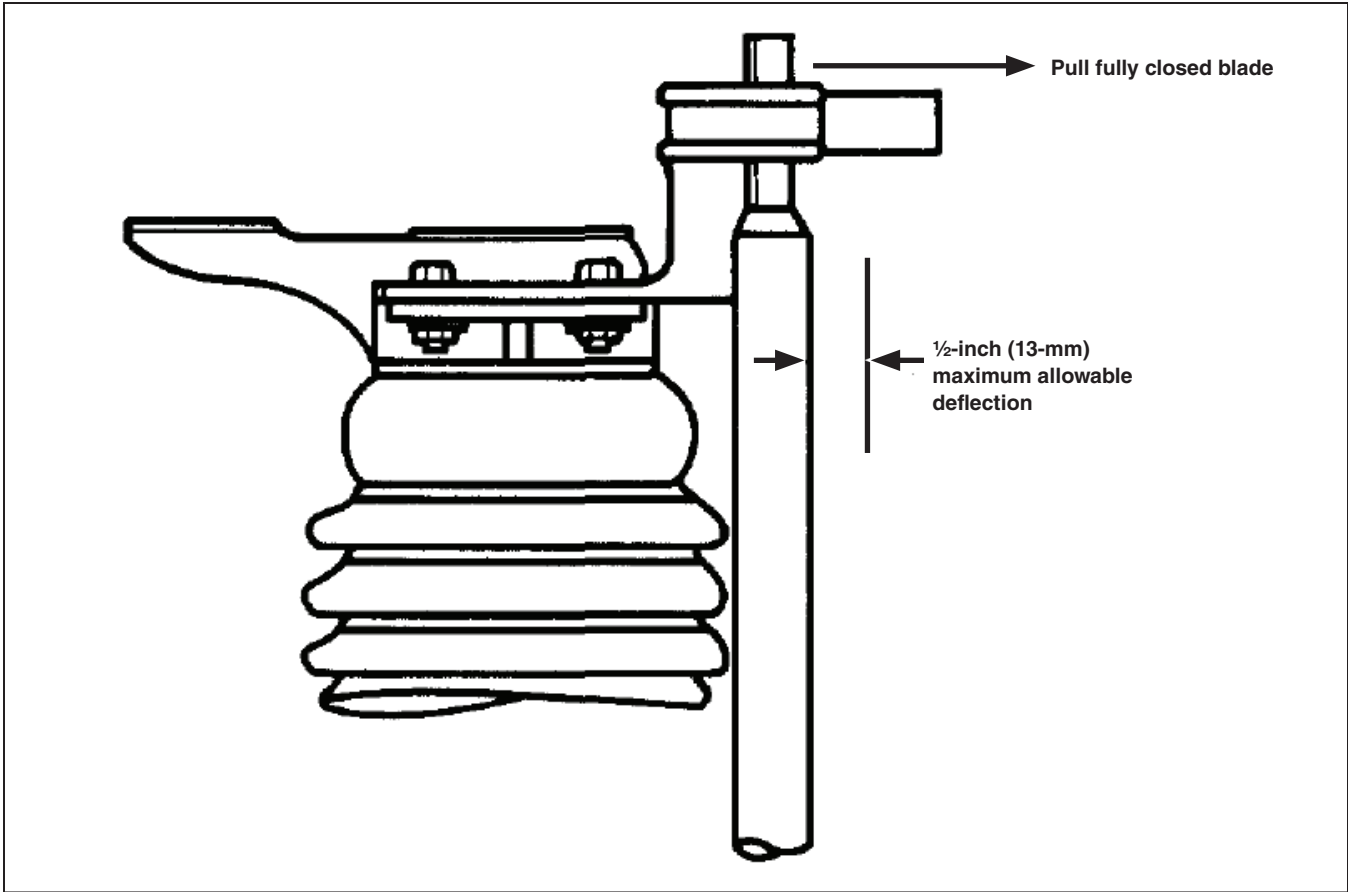

Figure 3. Blade closure verification.
- (f) Adjust the leveling nuts further so the grounding-switch blade applies a definite pressure to the jaw-contact fingers on closing (to ensure positive contact engagement) and rests against its stop when fully closed. Check for proper blade closure by pulling the blade away from its **Closed** position. See Figure 3 on page 10. With the blade fully closed and resting against the nylon stop in the jaw assembly, it should be possible to move the blade no more than ½ inch (13-mm) before meeting positive resistance. When proper blade closure has been attained, securely tighten the uppermost set of hex nuts used to attach the grounding-switch assembly to the support brackets.